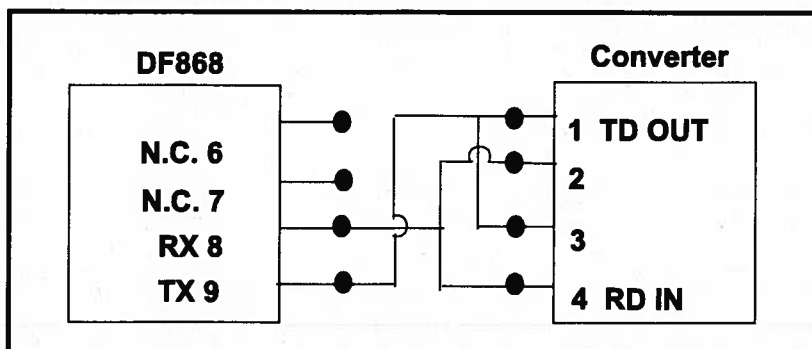

Figure 1-3: Typical RS485 Connections
3. Feed one end of the cable through the conduit hole, wire it to terminal block J1 and secure the cable clamp. Connect the other end of the cable to the converter, as shown in Figure 1-3 below.